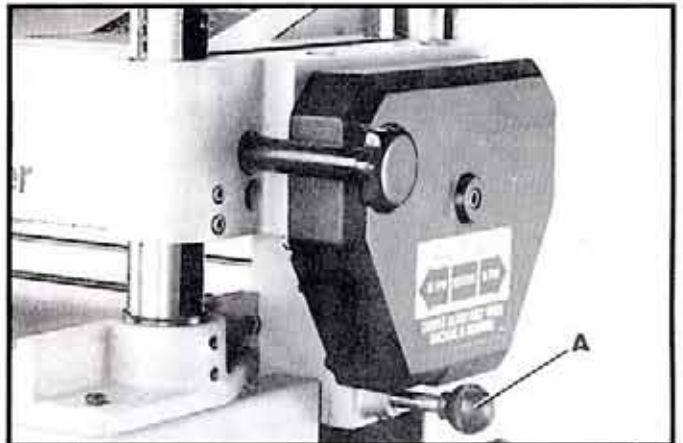

Fig. 21
When the shifter knob (A) Fig. 21, is pulled all the way out as shown, the feed roll speed will be 16 feet per minute.